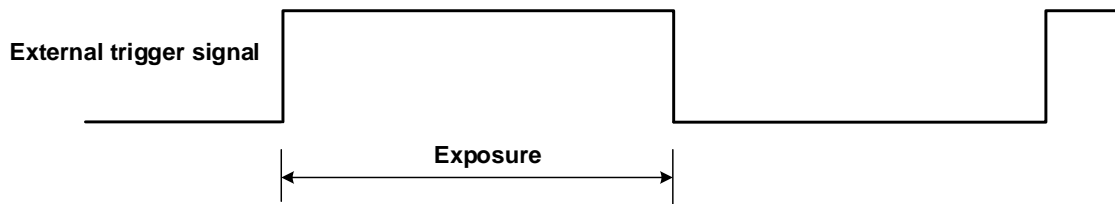

Figure 8-14 The sequence diagram in rising edge trigger of TriggerWidth exposure mode
- If rising edge triggering is enabled, exposure starts when the trigger signal rises and continue until the trigger signal falls, as shown in Figure 8-14